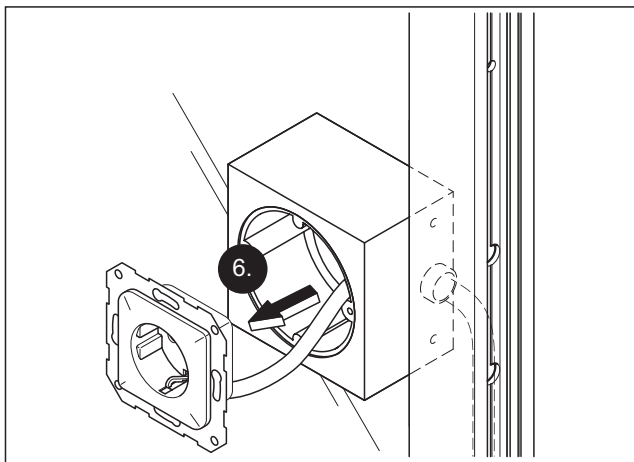

Abb. 15 Connect the cable to the intended product, e.g. to a grounded socket.
5. Connect the ground conductor for the installed cables to the intended product using the correct methods (Abb. 15).